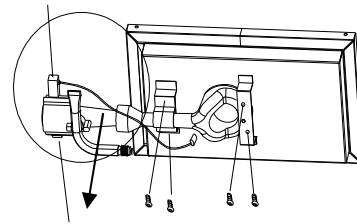

Figure 8
4. Tighten all four screws on the "U" bracket on the burner, then connect ignitor wire to ignitor. (Fig.8)